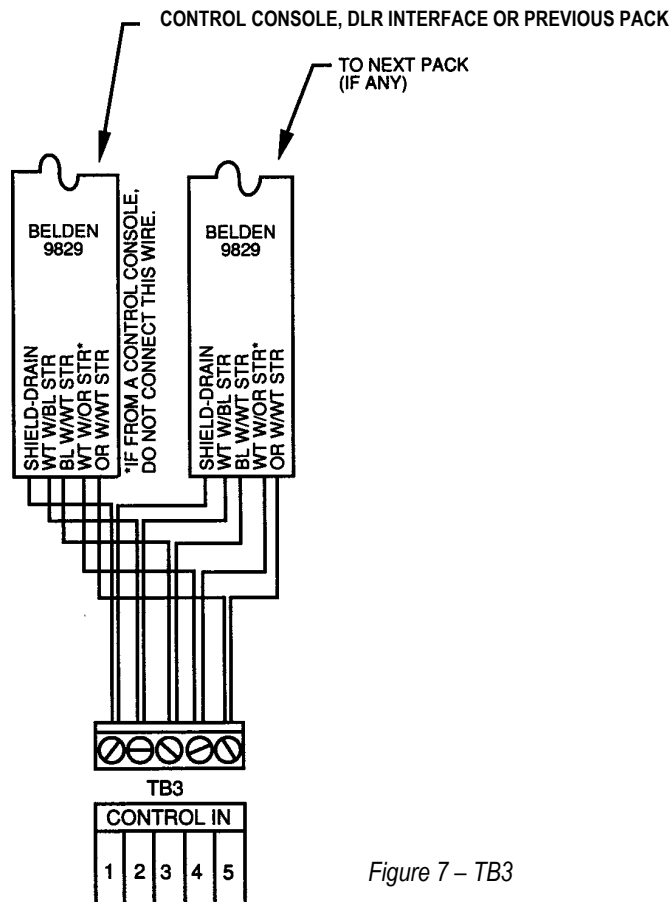

Figure 7 – TB3
- Connect the control wires to the 5-position terminal strip in each pack as shown in Figure 7.